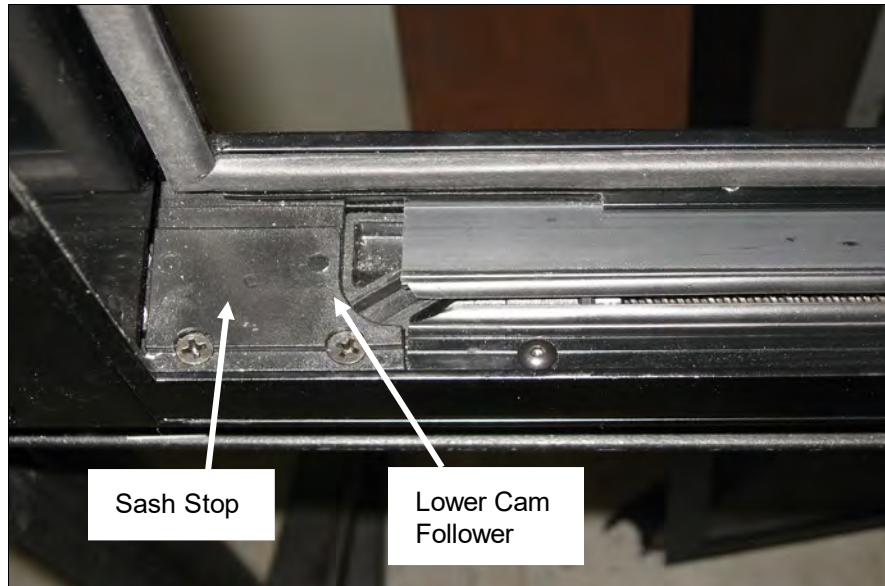

FIGURE 109: PROPER ALIGNMENT
1. Align the leading edge of the slot on the lower cam follower block with the sash stop. Use the power toggle switch to obtain the correct alignment. (Figure 109)